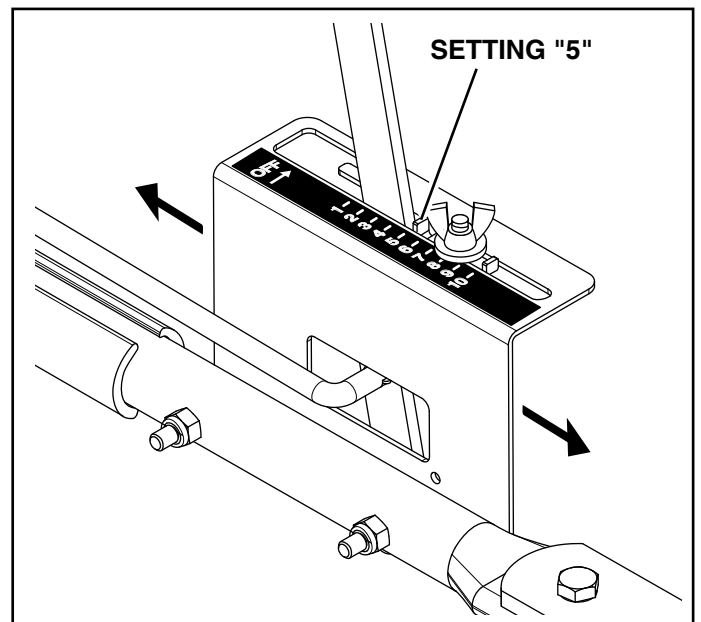

FIGURE 16
STEP 17: (SEE FIGURE 16)
(Refer to figure 16 on page 7.)